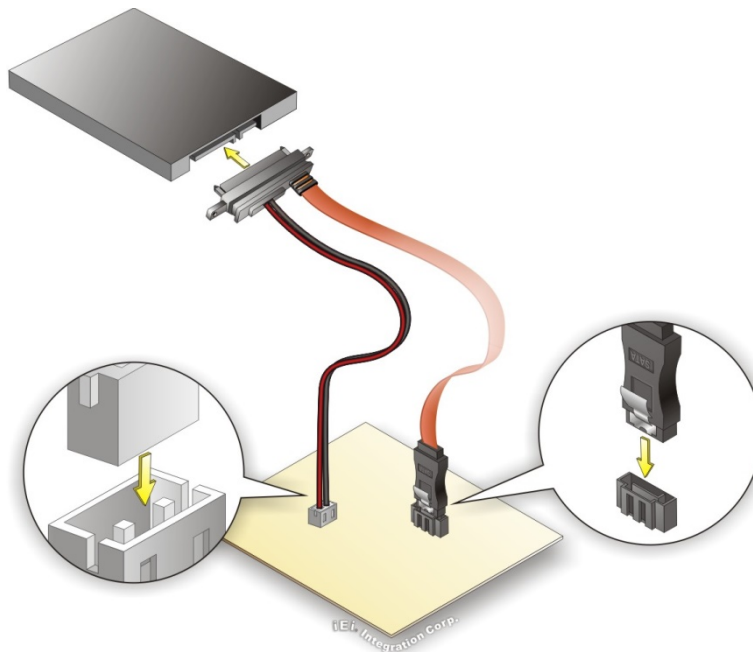

Figure 4-22: SATA Drive Cable Connection
Step 2: **Insert the cable connector.** Insert the cable connector into the on-board SATA drive connector and the SATA power connector. See **Figure 4-22**.
Step 3: **Connect the cable to the SATA disk.** Connect the connector on the other end of the cable to the connector at the back of the SATA drive. See **Figure 4-22**.